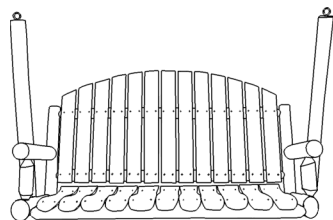

Figure 9
Step 8 Place the 5" Hex Washer Head Lag Screws through the predrilled holes of the swing bars. With a hammer, tap the lag screw into the predrilled hole of the seat end about 1/2", repeat process with lag screw and predrilled hole of the arm. (This is our recommended pitch of the seat. You may change the pitch by altering the location of the lag screws in the arm.) See Figure 9. It may be necessary to adjust arm if hole does not line up with lag screw of upright. (To adjust, back out screws of arm supports and tap arm up or down until hole lines up with lag screw.) Tighten down lag screws.